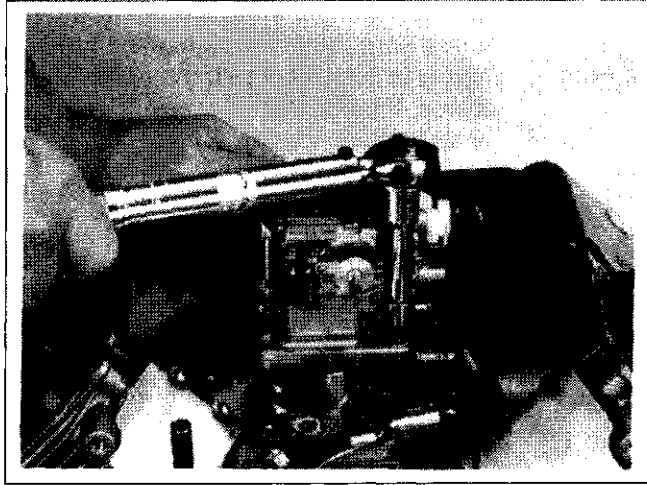

Figure 11-66. Installing Carburetor Assembly.
2. Install the carburetor, throttle linkage and governor lever as an assembly. See Figure 11-66.